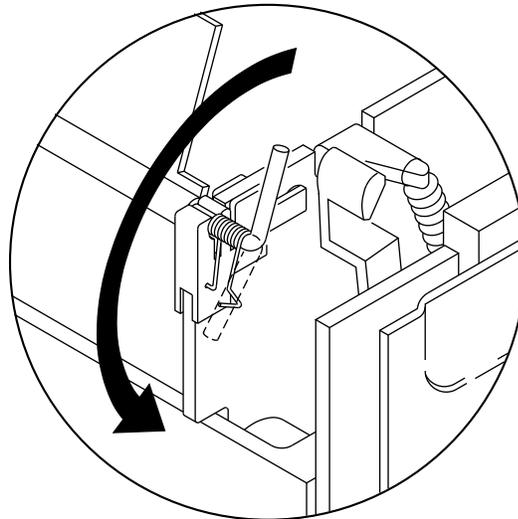

Figure 11 Tensioning the door spring
10. With the door lever pushed back, push in the bottom of the door and rotate it around the hinge pin one and a half turns to tension the spring, as shown in Figure 11.